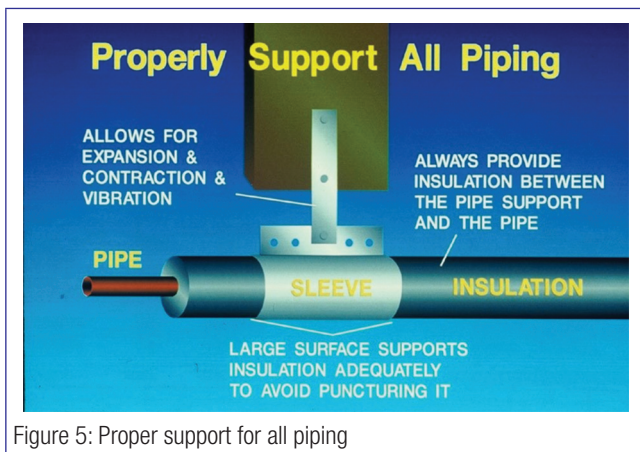

Figure 5: Proper support for all piping
- In *Figure 5*, there is only one upper bolt in the support, and the lower hole is not clamped. The purpose is to ensure free movement of the pipe to the left or right due to temperature changes.